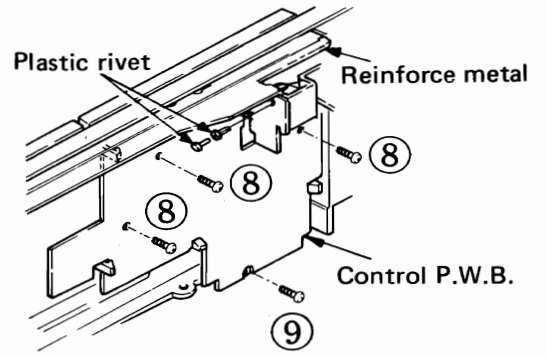

Fig. 5
6. **Control P.W.B., Sensor P.W.B. (Fig. 5)**